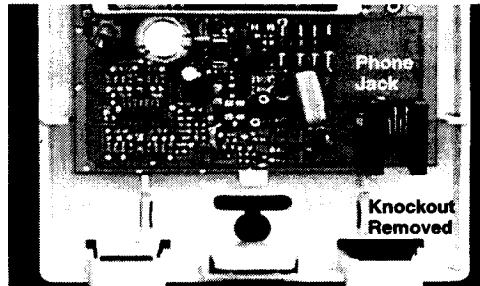

Figure 5. Knockout and Phone Jack Locations
6. Remove the right knockout on the DTIM plastic, feed the 6-position phone cord plug through it and connect the plug into the DTIM phone jack (Figure 5).